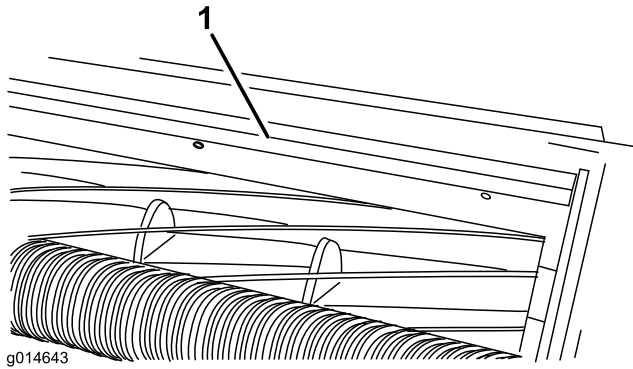

Figure 11
1. Loosen the screws securing the top bar (Figure 11) to the cutting unit.